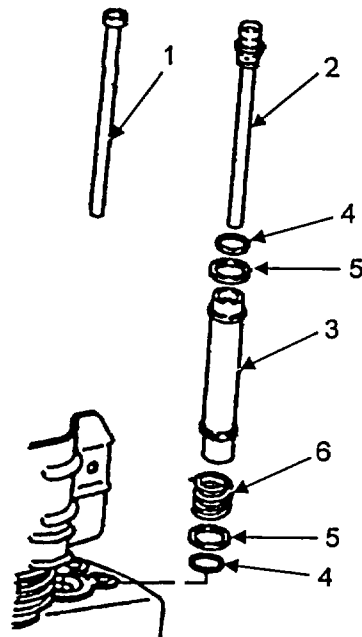

FIGURE 5-25. ASSEMBLE PUSHRODS
a. Install new preformed packing (Figure 5-25, Item 4), shims (5), and new pressure springs (6), on protection tubes (3).
b. Install protection tubes (3).
c. Install complete pushrod (2) closest to injection pump side of engine.
d. Install pushrod (1).